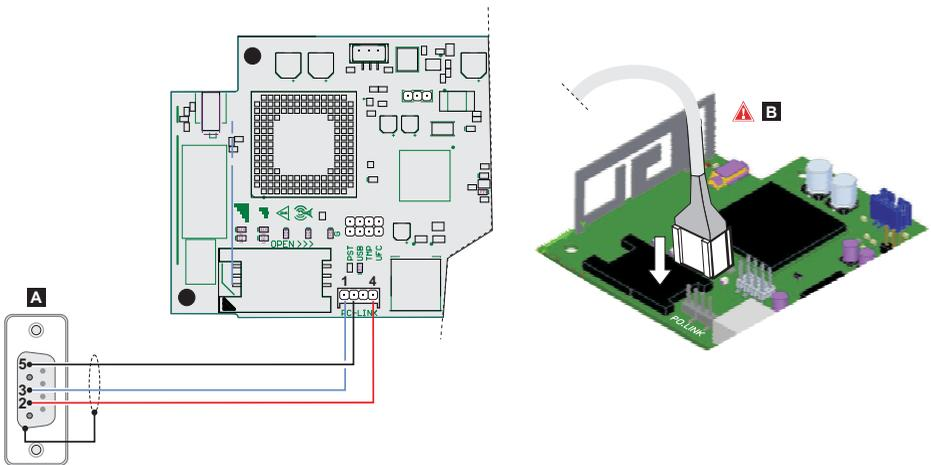

Figure 7 – PC-LINK cable connection: A) RS-232 female connector, solder side B) insert the PC-Link cable properly.
1. Connect the communicator PC-LINK serial port to a free RS232 serial port on the PC using the PC-LINK cable (accessory item), as shown on Figure 7.